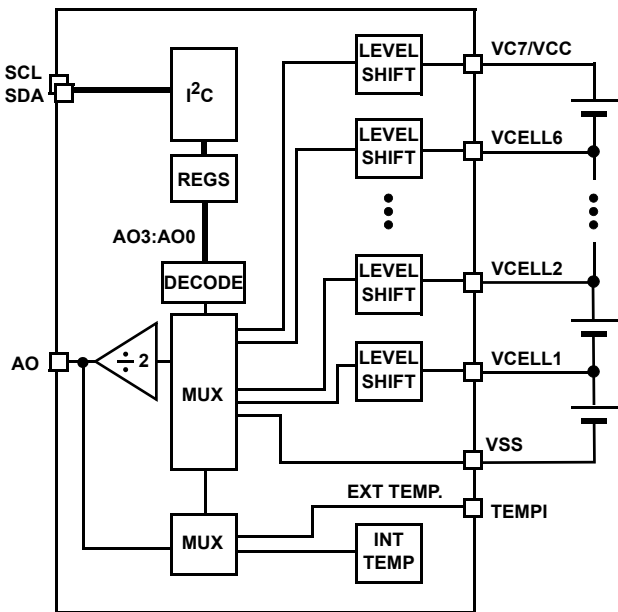

FIGURE 5. ANALOG OUTPUT MONITORING DIAGRAM
The ISL94201 devices can be used to externally monitor individual battery cell voltages and temperatures. Each quantity can be monitored at the analog output pin (AO). The desired voltage is selected using the I2C interface and the AO3:AO0 bits. See Figure 5.